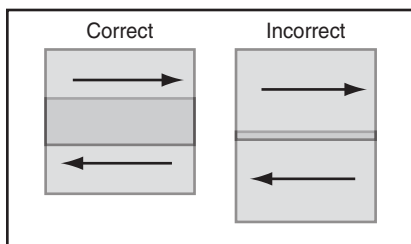

Figure 6. Overlapping technique.
14. Maintain an even speed when spraying, and overlap each stroke by 50%. This will ensure even coverage, as shown on left in **Figure 6**. Overlapping less than 50%, as shown on right in **Figure 6**, may lead to missed spots or streaky results.